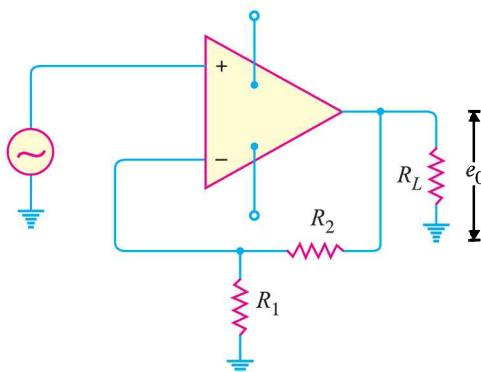

Fig. 13.30
- Fig. 13.30 shows the negative feedback amplifier. If the gain of the amplifier without feedback is  $10^5$  and  $R_1 = 100\Omega$ ,  $R_2 = 100\text{k}\Omega$ , find (i) feedback fraction (ii) gain with feedback.